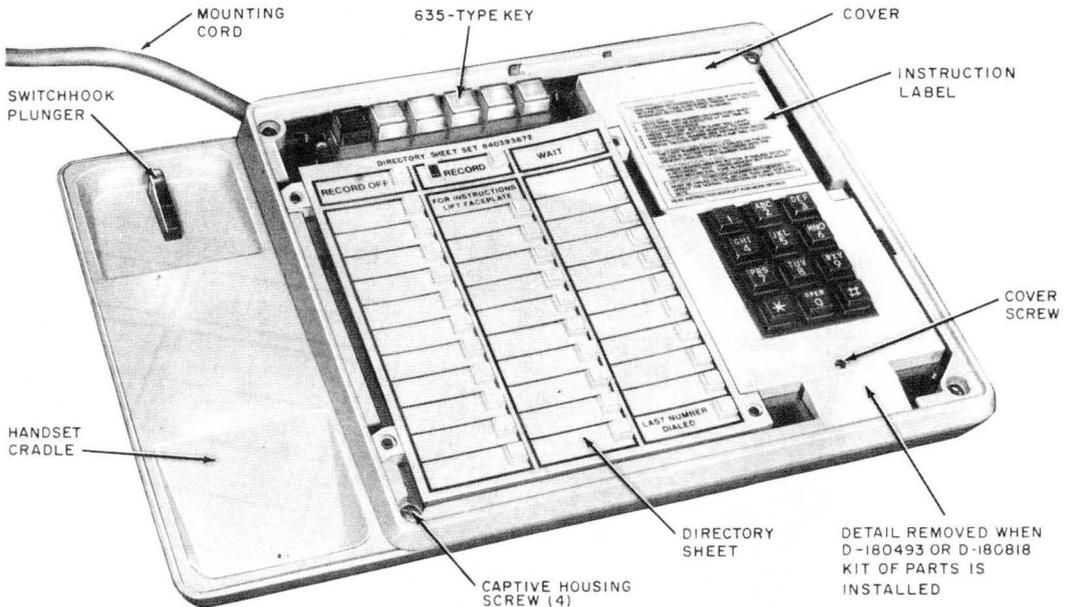

Fig. 2—2872A2M Telephone Set—Faceplate and Handset Removed
2.07 Operating Features (Fig. 2).
- Line key (635BT5), 6-button key. Hold with five line pickup buttons which are convertible to nonlocking. An additional momentary contact (logic reset switch) is attached to the Hold side of the key to reset the logic circuit anytime a key button is depressed.
3.05 The directory sheets (Fig. 2) fit over the buttons of the memory and are held in place by the faceplate. Additional sheets are available in the directory sheet set, 840393672.
- (5) Make connections per Table C, E, or F.
- (6) Break off the detail at the bottom of the cover (Fig. 2) and trim edge as required.
- (7) Verify correct operation of the option.
- (8) Reassemble set.